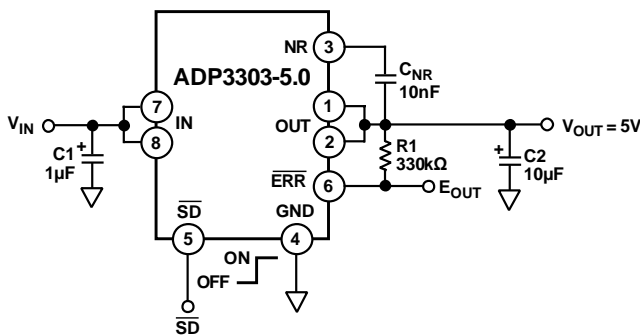

Figure 23. Noise Reduction Circuit
A noise reduction capacitor (C_{NR}) can be used to further reduce the noise by 6 dB to 10 dB (see Figure 23). Low leakage capacitors in the 10 nF to 100 nF range provide the best performance. Since the noise reduction pin (NR) is internally connected to a high impedance node, any connection to this node must be carefully done to avoid noise pickup from external sources. The pad connected to this pin must be as small as possible. Long PCB traces are not recommended.